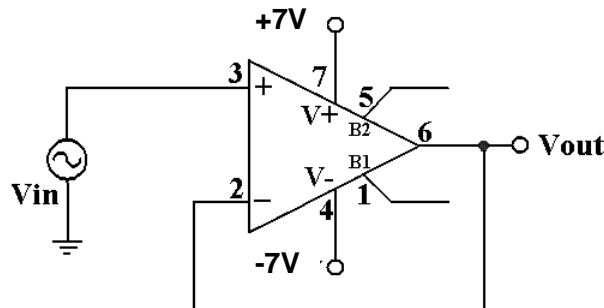

Fig. 6. Unity Gain Buffer Configuration.
8. Simulate the unity gain buffer configuration shown in Fig. 6 with a load of 2K in parallel with 100pF at the output. Assume a sinusoidal input of 10Vpp at 15 kHz. Obtain the maximum  $dV_{out}/dt$  of the output signal and find the frequency at which this Opamp will enter the slew rate conditions.